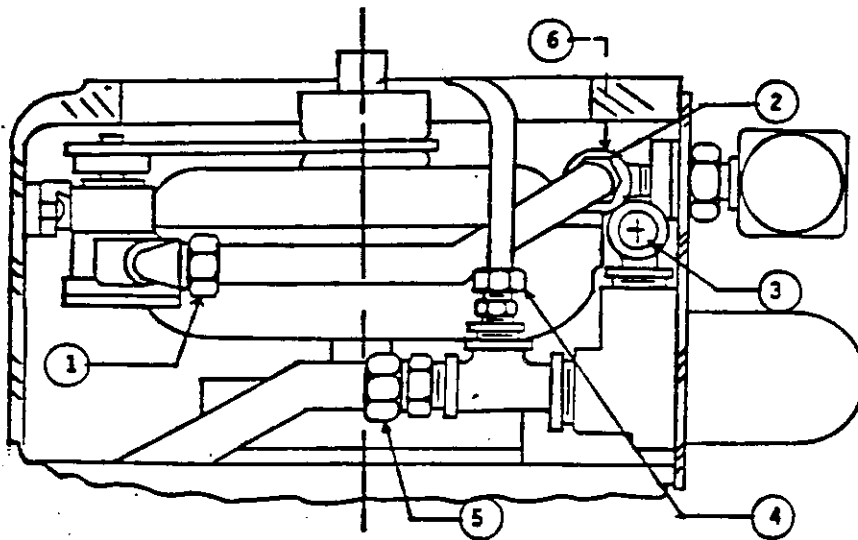

Figure 6: Inside View, Access Plate Removed, showing hose connections.
5. Disconnect swivel fitting on oil pump outlet (1, Fig. 6). Disconnect swivel fittings on oil feed line (4, Fig. 6) if present.
6. Loosen and remove hex nuts and lockwashers on control plate. Carefully pull out control plate. Hold level and disconnect heat exchanger outlet swivel (6, Fig. 6) and oil filter inlet swivel (3, Fig. 6).
7. Coat gasket contact area on control plate with a light coating of gasket sealant. Replace control plate, reconnecting swivels at locations 3 and 6, Fig. 6.
9. Reconnect swivel fittings at locations 1 and 4, Fig. 6.
3. Allow unit to cool to 90°F (32°C). Remove access plate (12, Fig. 3). Check hose connections (see figure 6). Check heat exchanger and oil filter connections.